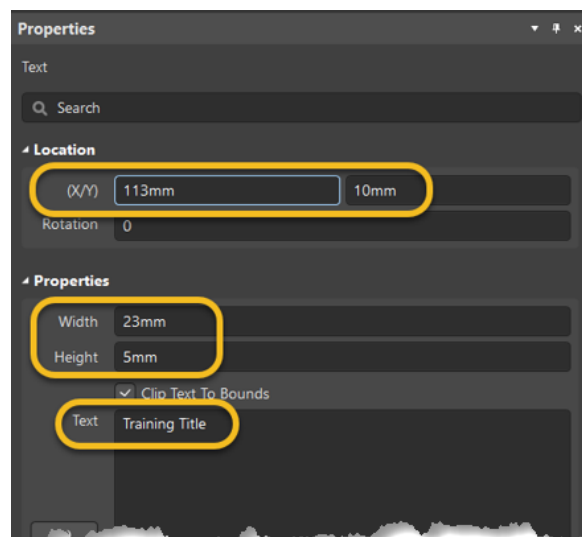

Figure 7. Parameters for first String
18. Using **P»T**, place the string `Training Title` inside the rectangle, in the upper left corner. Use Figure 7 as reference.